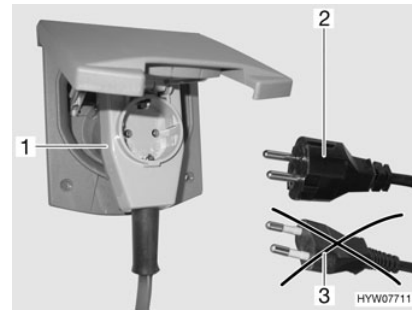

Fig. 58 Connecting an angled connector with socket
- ▶ When using a CEE 17 angled connector with rear socket (Fig. 58,1) only use a rubberised and sealed IP 44 socket with earth contact (Fig. 58,2). Do not use sockets without earth contact (Fig. 58,3). Danger of electrocution!